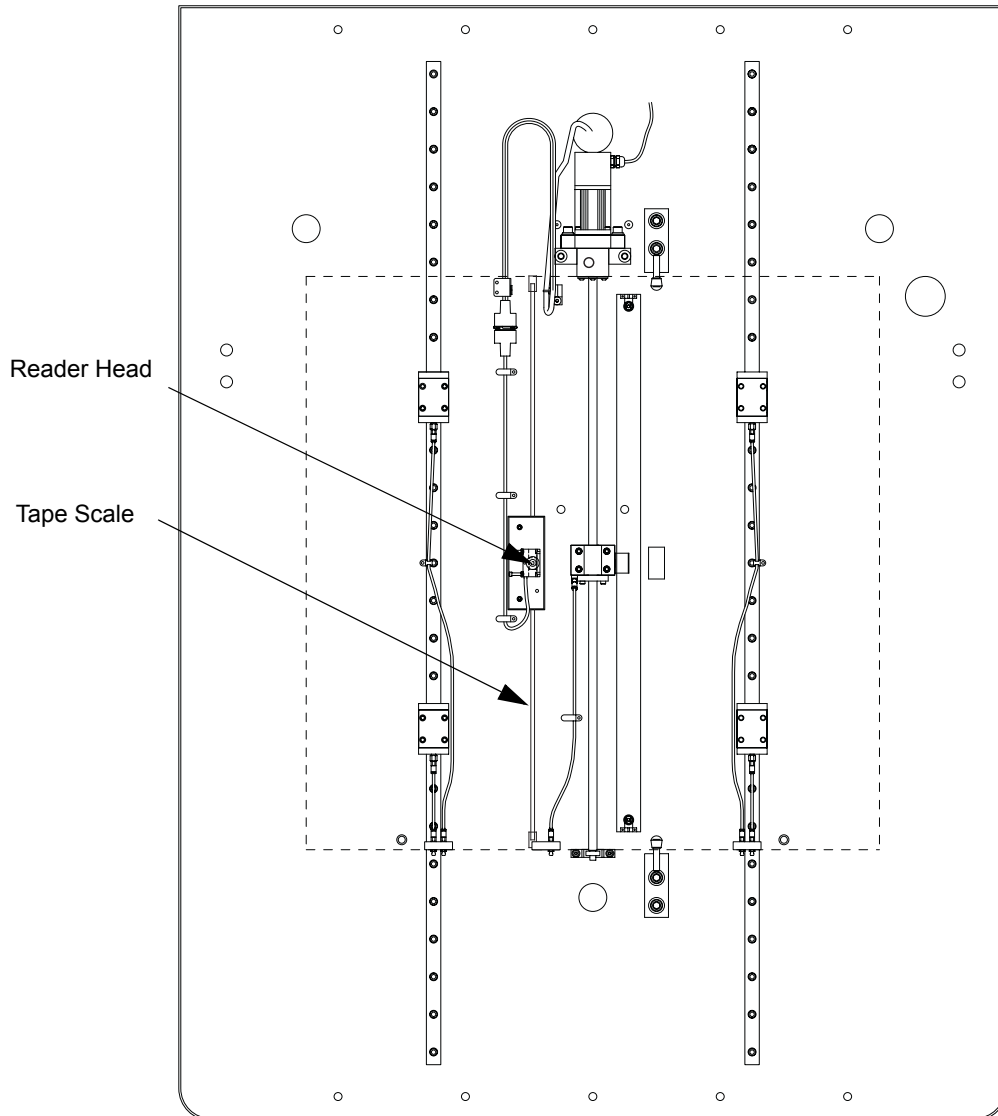

Figure 9-10 Y-Axis Scale and Reader Head
3. Disconnect the Y reader head cable. The connector is located on the right hand side of the Y stage on the system; see Figure 9-10.